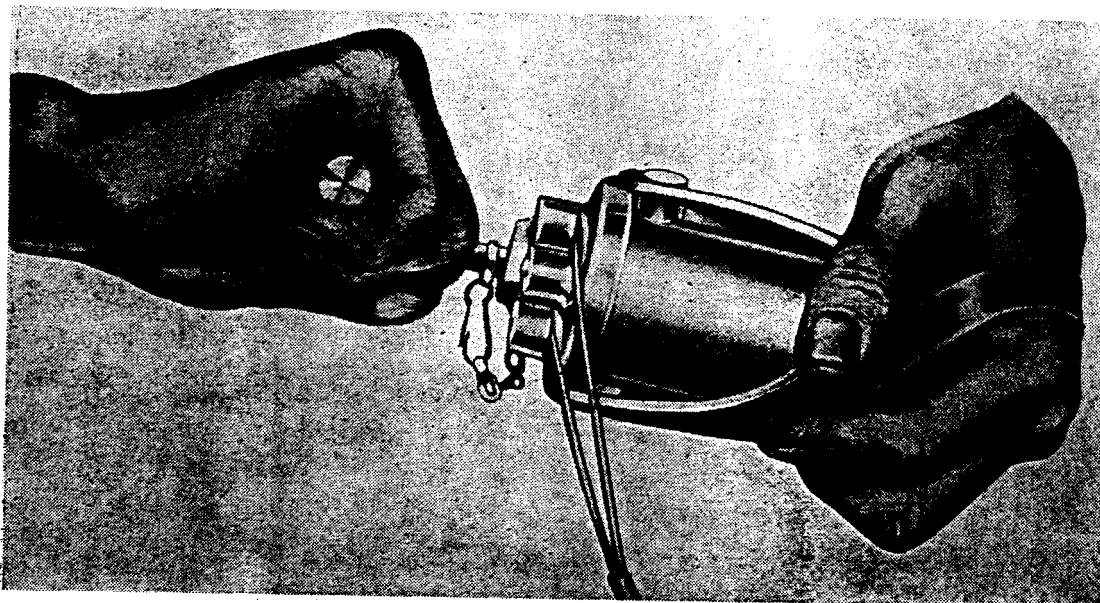

Figure 46. Ten-cap blasting machine.
b. *Blasting Machines.* A blasting machine is a small electric generator that furnishes current for firing electric blasting caps. The 10-cap blasting machine (fig. 46) will fire 10 blasting caps or electric